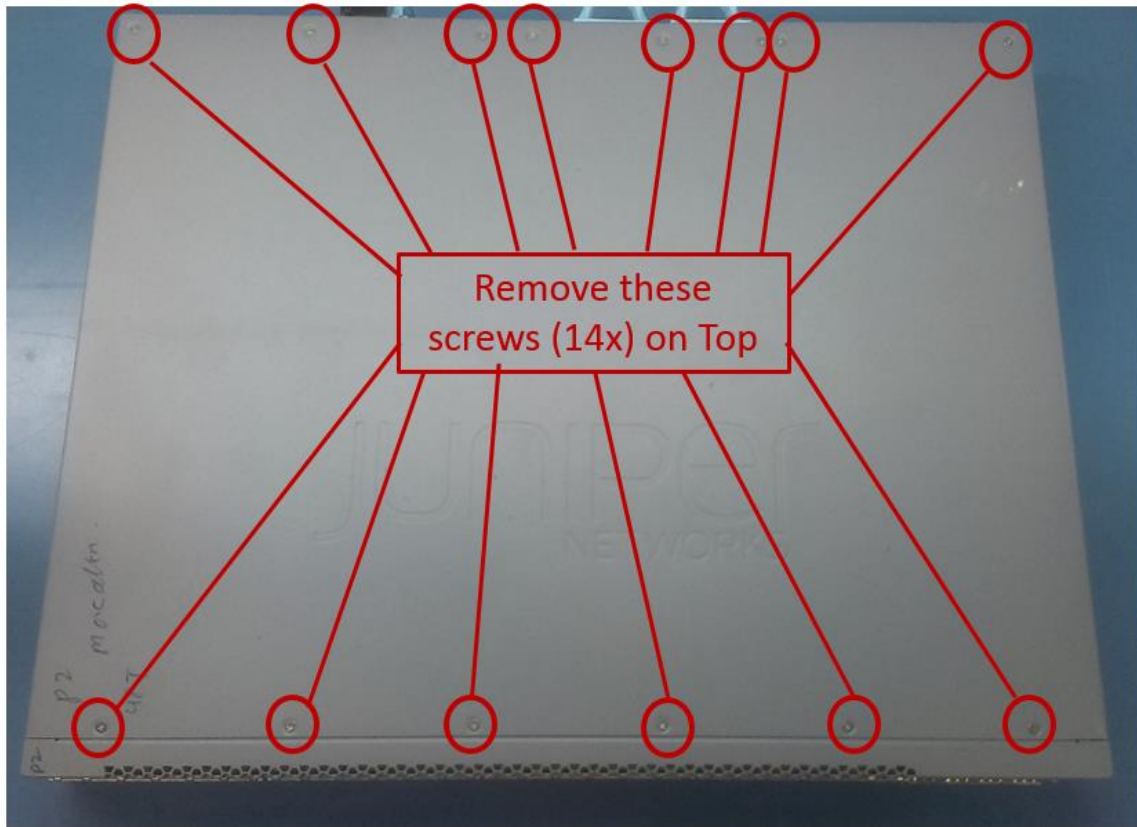

Figure 3-2: Top side screws
3. Remove fourteen(14) screws from the top of the system (Figure 3-2)